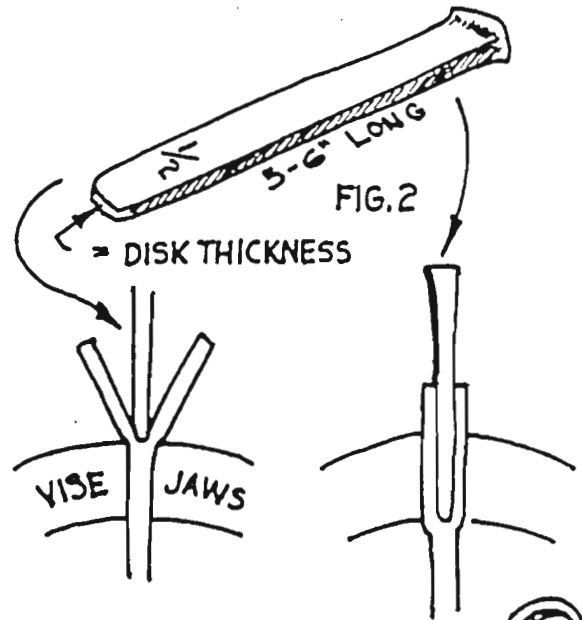

FIG. 2
Draw the handle section (H) out into a long tapered spike as in figure 2. (Tim drives a standard wooden file handle onto the spike to complete the tool after it is sharpened and heat treated.)
Step 2- With the drift shown in figure 2, finish spreading the forks of the split down to the bottom of the split. Reheat the piece and close the split with the drift in position between the two forks by squeezing them together in the vice jaws.